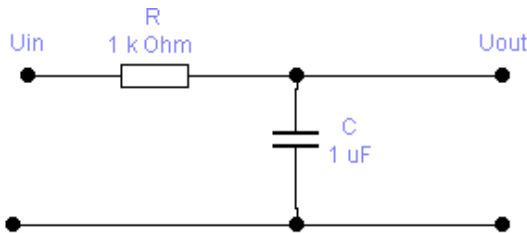

Figure 8.1 – Low pass filter (LPF)
- A low-pass filter (LPF) passes low frequencies while blocking higher frequencies (See fig. 8.1).